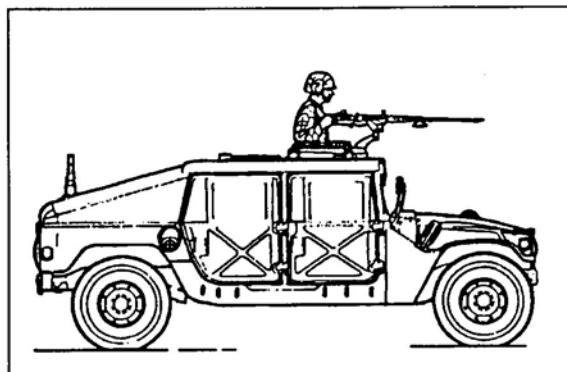

Figure 5. Standing position (HMMWV mount).
e. Standing position for HMMWV-mounted gun (Figure 5).